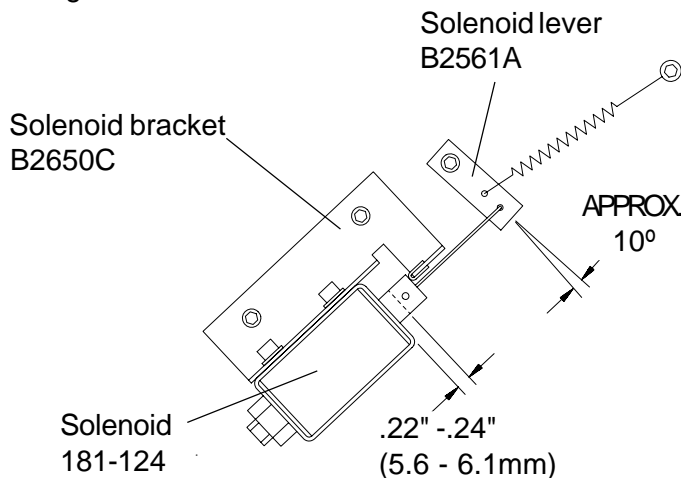

FIG. 3
2. Slacken the diverter screws to adjust the solenoid lever to approx. 10° past right angle to the solenoid centre line, with the diverter tips just touching the roller in their closed position (see Fig. 3 below).
5. Slide the solenoid on its bracket to the setting shown in Fig. 3.